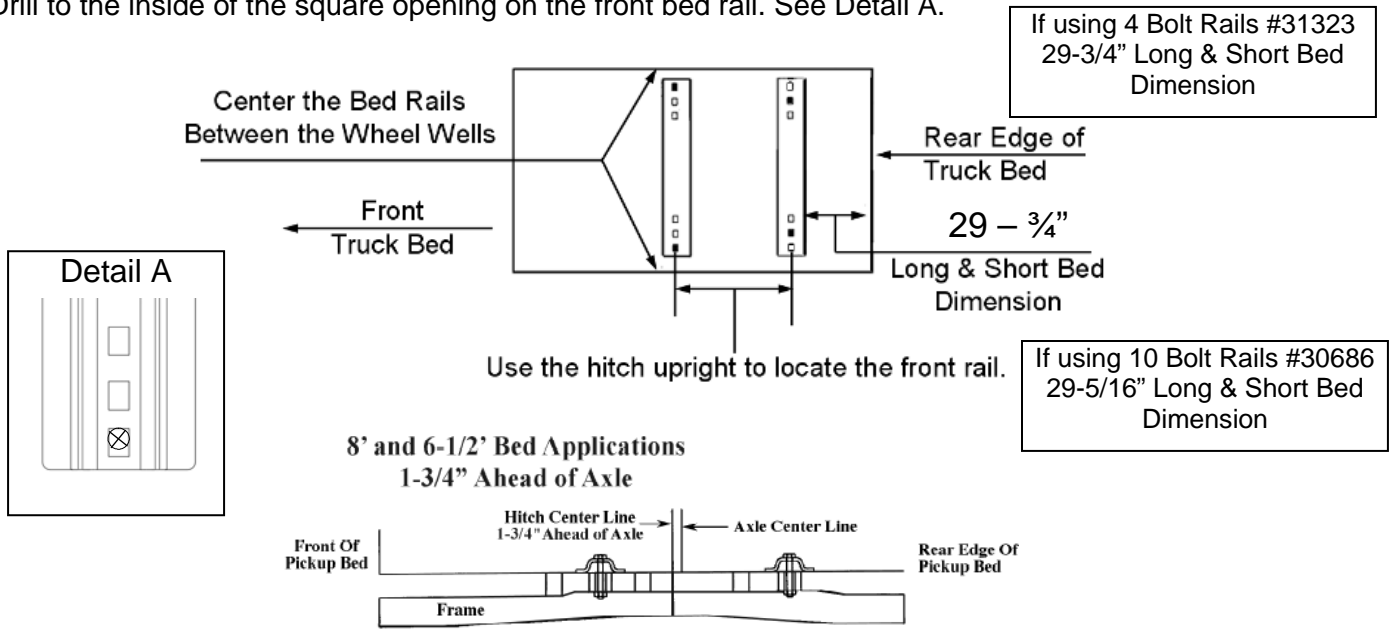

Figure 1
- Place the two bed rails across the truck bed between the wheel wells. Position the 5th wheel uprights between the bed rails so that the tabs in the base of each upright will fit into the slots in the ends of the bed rails. Secure the uprights in place with the rail hitch pins and hair pins supplied with the 5th wheel installation kit. Securely attach 5th wheel cross member to uprights. See Figure 1.
- Position the bed rail assembly in truck bed as shown Figure 1 of this instruction sheet. When hitch is correctly positioned in the bed and the bed rails are parallel, mark four attachment points on the truck bed using the 5/8" square holes indicated on the layout Figure. Check below the bed before drilling holes to see that all wiring, brake lines, or other obstructions are moved out of the way and will not be contacted by the drill. Move the hitch assembly out of the way and drill four 5/8" diameter attachment holes down through the bed and truck frame at the previously marked points.